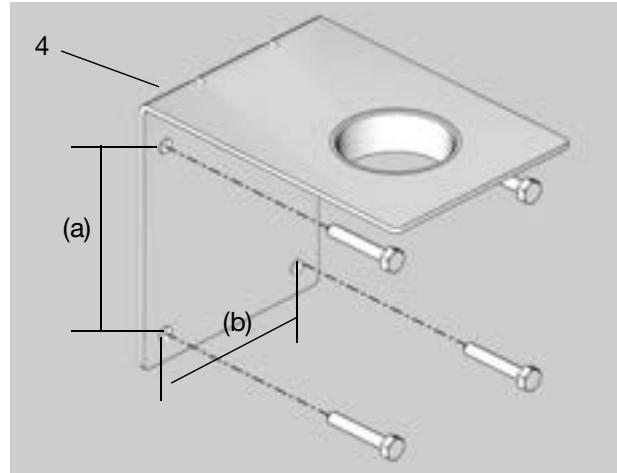

FIG. 5
1. Use the wall bracket (4) as a template and to mark and drill holes in the wall (FIG. 5).
2. Using 4 screws (user supplied) that are long enough to securely hold the wall bracket and pump to the wall, install the bracket (4) to the wall (FIG. 5).